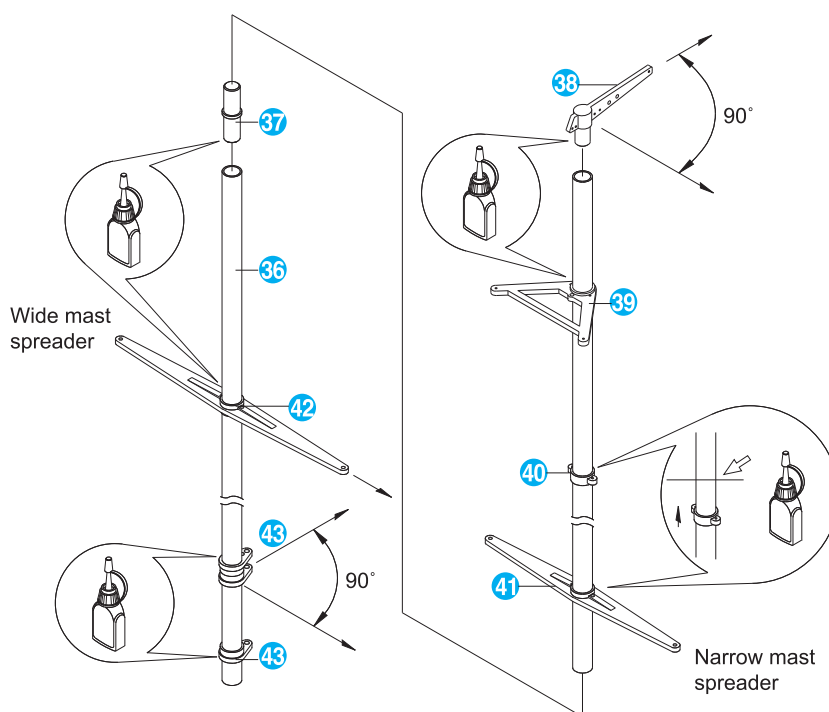

Fig. 21
5. Refer to Fig. 21 to determine the proper orientation of the various main mast fittings. When satisfied with the location, attach the fittings to mast using CA glue, but **DO NOT GLUE THE TWO GOOSENECK FITTINGS **43** to the lower main mast half.** These will need to be moved during the step 8!